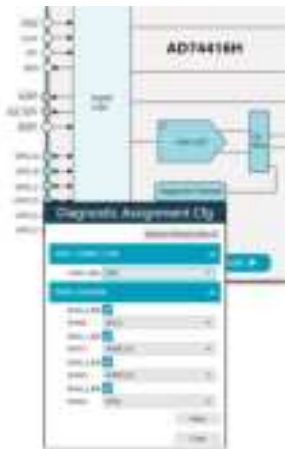

Figure 15. Assigning Diagnostic
1. Click the **Diagnostic Channel** button to choose the diagnostic to measure. A Diagnostic Assignment Cfg window appears, as shown in Figure 15. In the **ADC_CONV_CTRL > CONV_SEQ** area, select **ADC** in **IDLE** mode, once changes to ADC configuration complete.